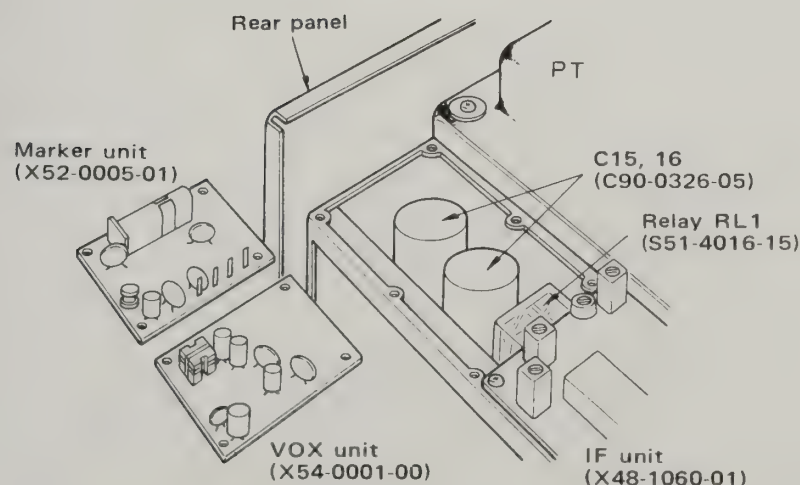
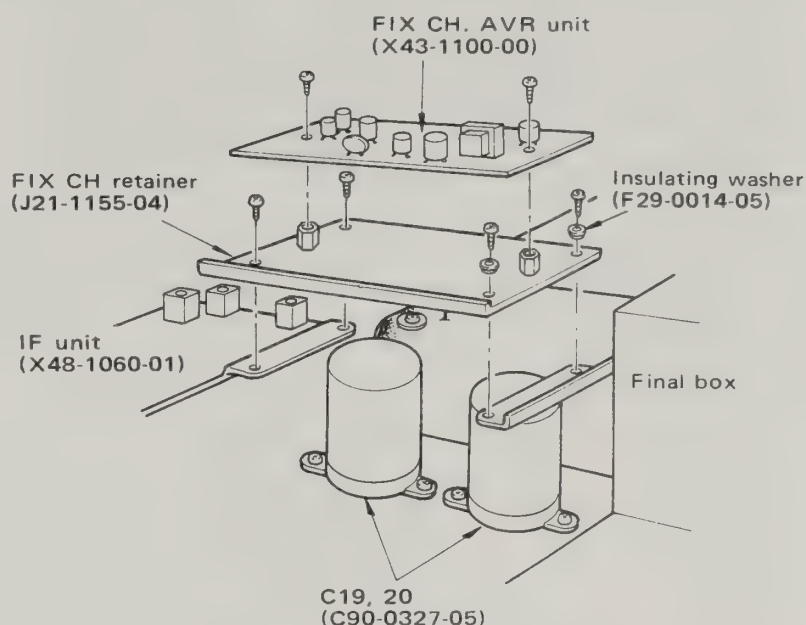

Fig. 10 Replacing RL1, C15 and C16
Fig. 11 Replacing C19, 20
RL1 is located below the VOX board, as shown in Figure 10, next to the power transformer. Remove the top cover of the transceiver and then remove the VOX board. Replace the relay with an exact equivalent.
See Figure 11. C19 and C20 are reached by removing the TS-520S top cover and then the FIXCH-AVR board as shown in Figure 11. C15 and C16 are reached by removing the transceiver's top case and then the MARKER and VOX boards as shown in Figure 10.
2. Remove the FIXED CHANNEL-AVR board as shown in Figure 11.